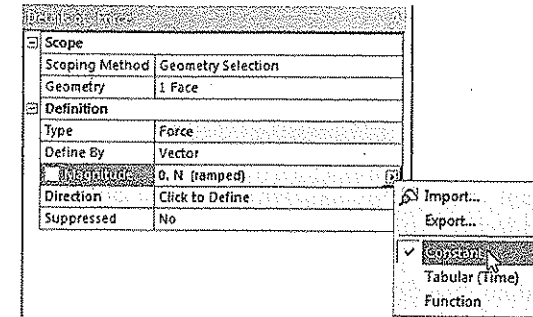

Figure 9-48 Choosing the **Constant** option
- Choose **Constant** from the flyout, if it is not already chosen, as shown in Figure 9-48.